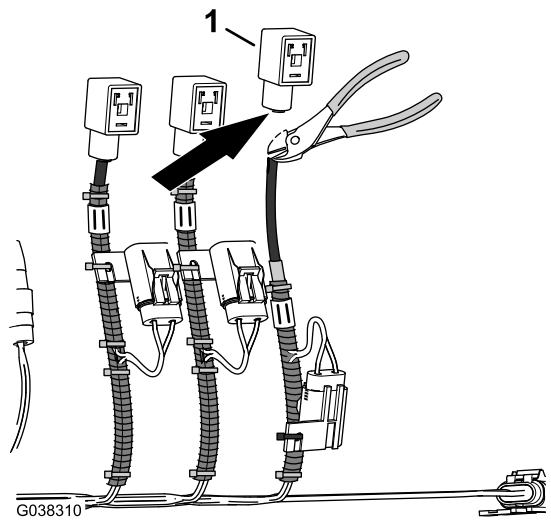

Figure 32
5. Cut the DIN connector harness below the DIN connector (Figure 32)